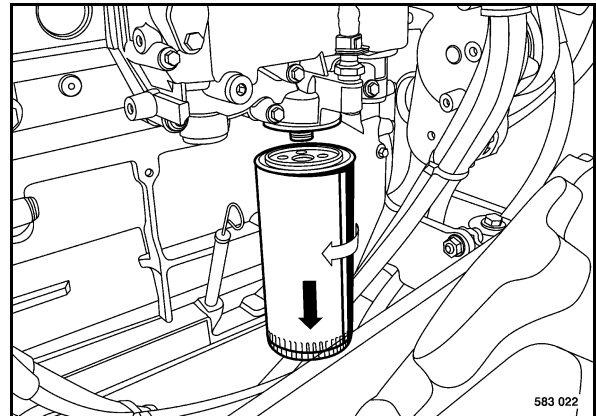

Fig. 138
- Thoroughly clean the outside of the filter cartridge (Fig. 138).